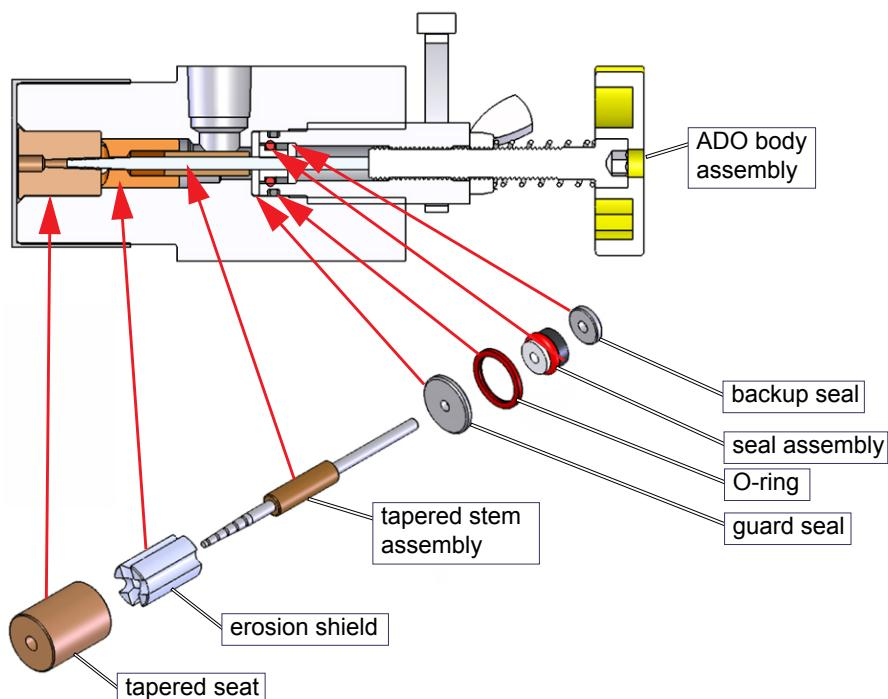
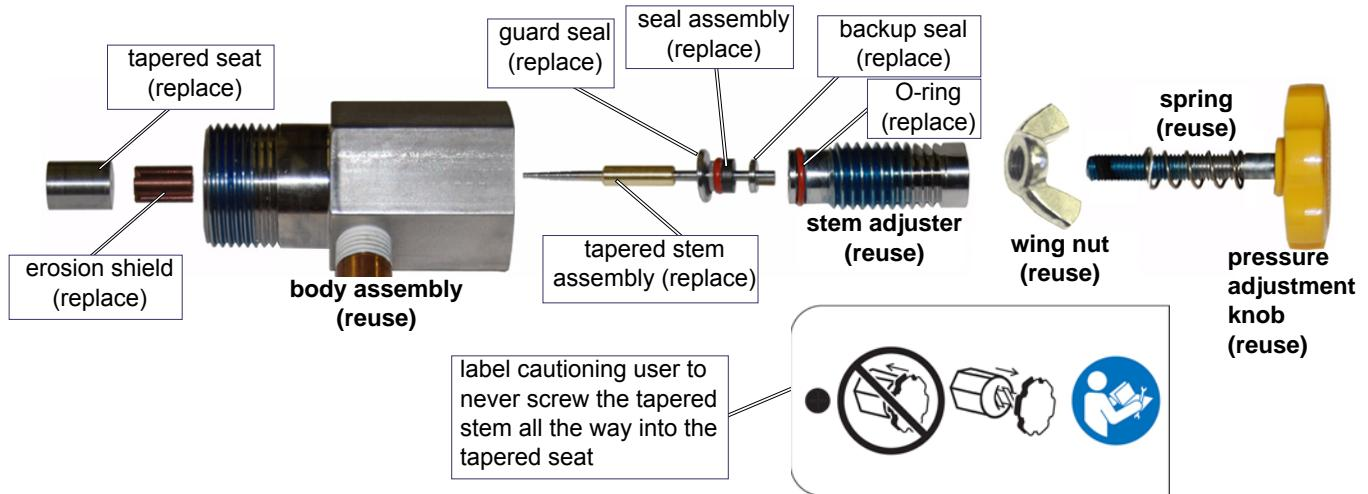

Figure 7-1
Figure 7-11
This chapter explains how to replace wear items in a MAXIEM Adjustable Dump Orifice (ADO) using rebuild kit, P/N 306500. See Figure 7-1.
Note: ADO disassembly involves disconnecting the on/off valve with the air actuator attached and removing all internal components of the body assembly that are being replaced in the rebuild kit. See Figure 7-1 for components:
5. Remove and discard each seal component identified below (Figure 7-11), replacing them with parts provided in the ADO rebuild kit (see Figure 7-1).